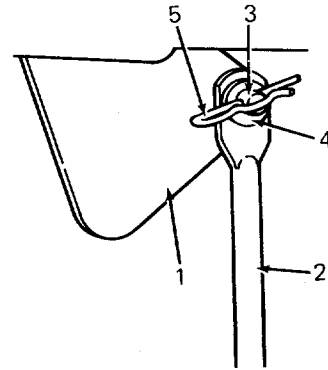

Figure 47
2. Lower the lift handle to its lowest setting. Secure each of the rear lift links to the lift carriage lift pins using a flat washer and hairpin cotter. (Refer to Figure 47.)